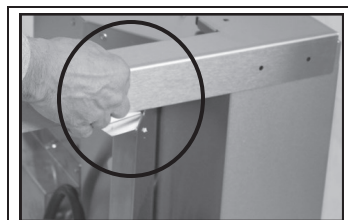
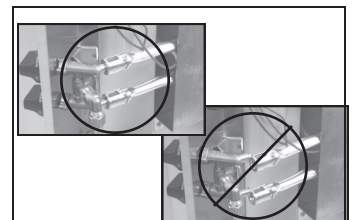

Fig. 3
Fig. 4
3. Flip the grill over and attach the 2 short legs to the left side of the grill pit bottom. Use two 10-24 x 1/2" Pan Head Bolts for each leg. Insert bolts from outside of grill pit and fasten with 10-24 kev nuts. **Note: When attaching front legs make sure the control panel tab is tucked behind the front legs as shown in (Fig. 3) The valve stems must be seated properly in the venturi tubes as shown in (Fig. 4) before tightening.**